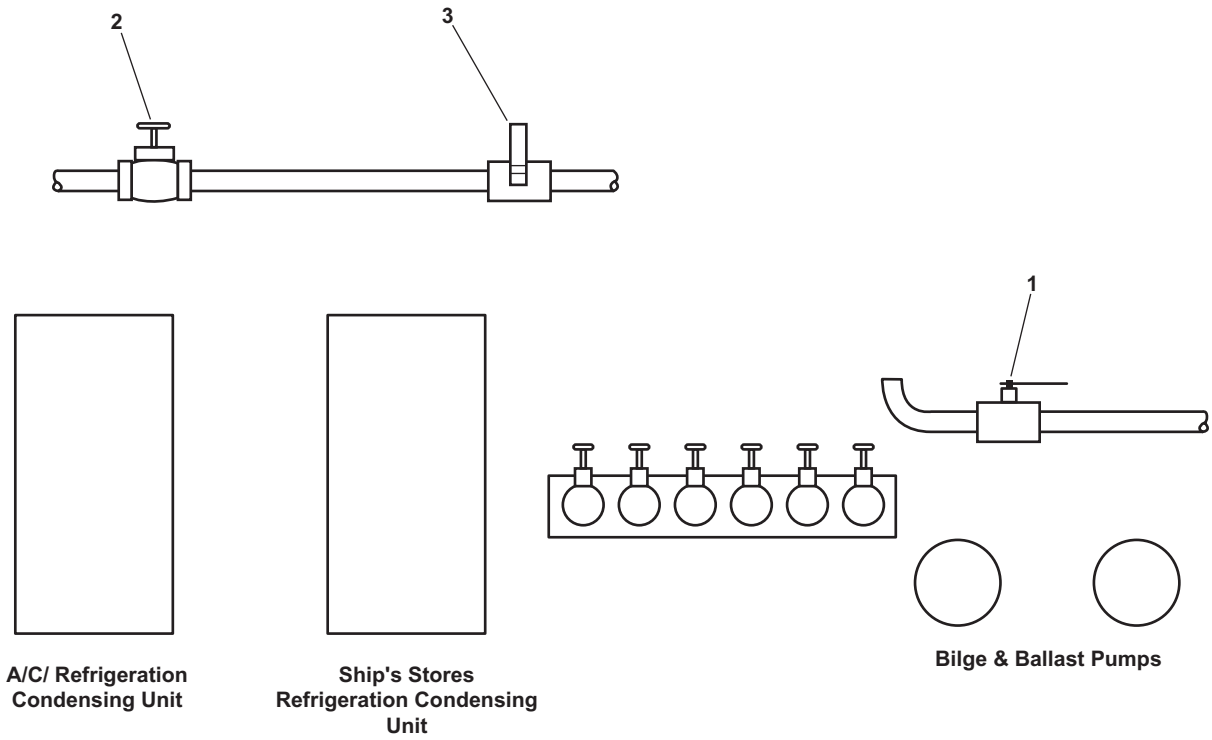

Figure 11. Potable Water Valves on AMS 2 Aft Bulkhead
- c. RO-V-9, (figure 11, item 1), fresh water flush pump supply valve
- g. PW-13 (figure 11, item 2), starboard potable water tank fill valve
- h. PW-12 POT. WTR. TK. PORT FILL (figure 11, item 3).